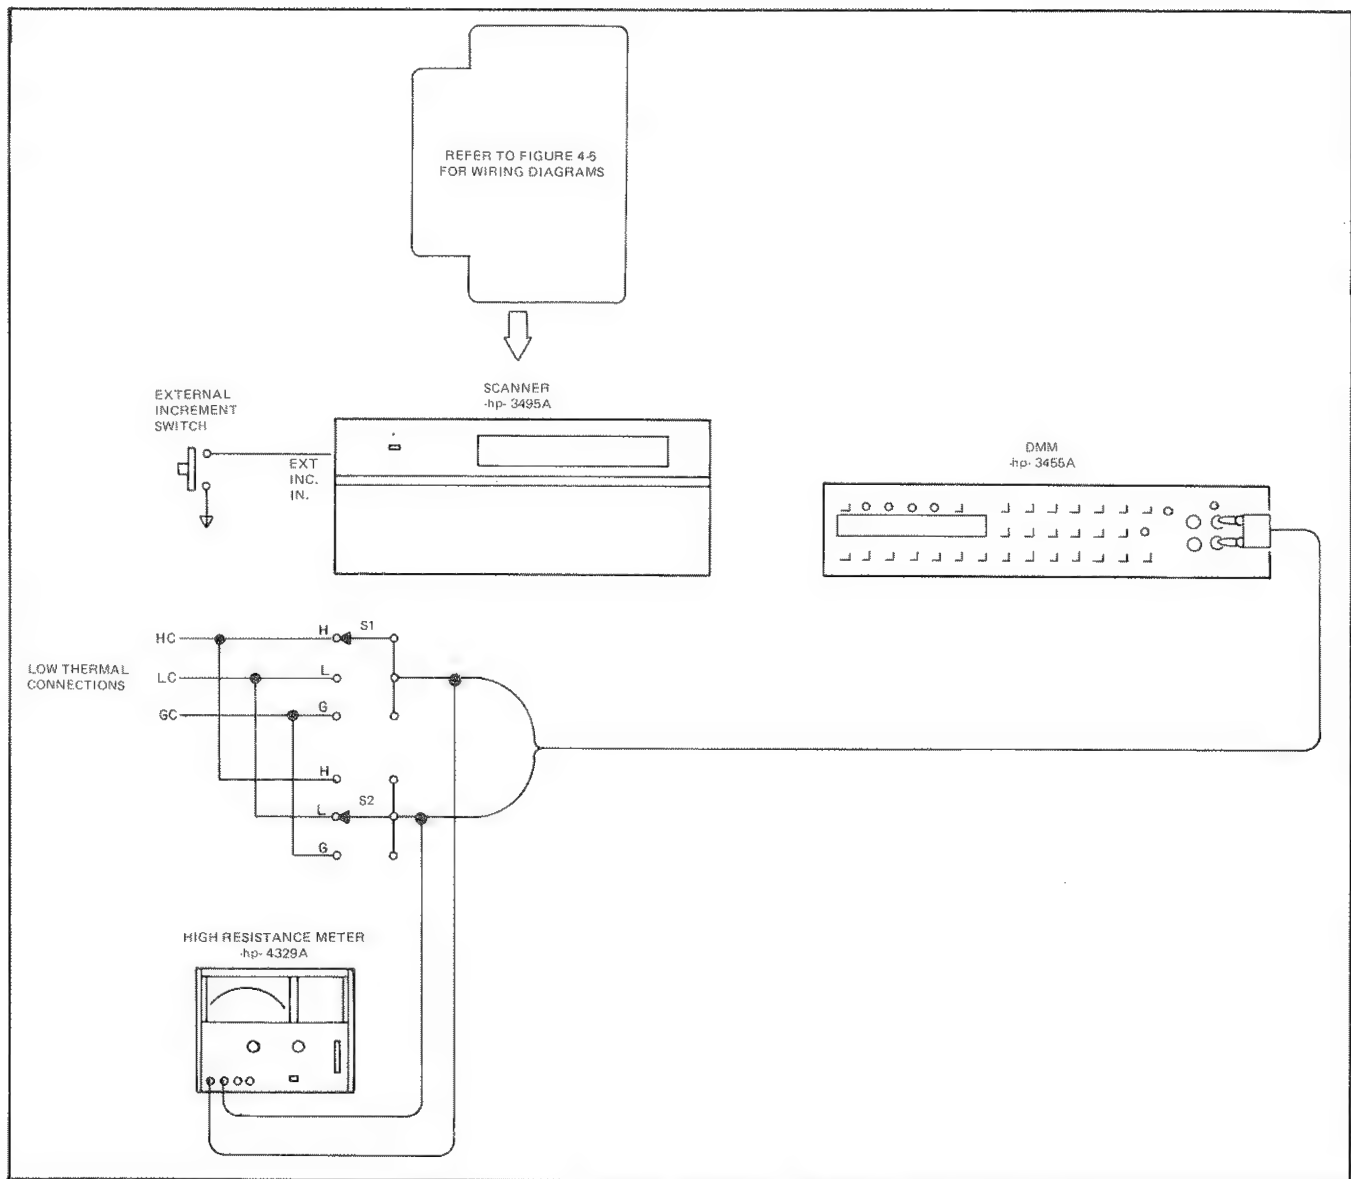

Figure 4-6. Channel Isolation Test Setup.
as determined by the Select Switches S1 and S2 in Figure 4-6.
a. Connect the test setup as shown in Figure 4-6. Use the proper value for  $R_S$  as shown in Table 4-2.